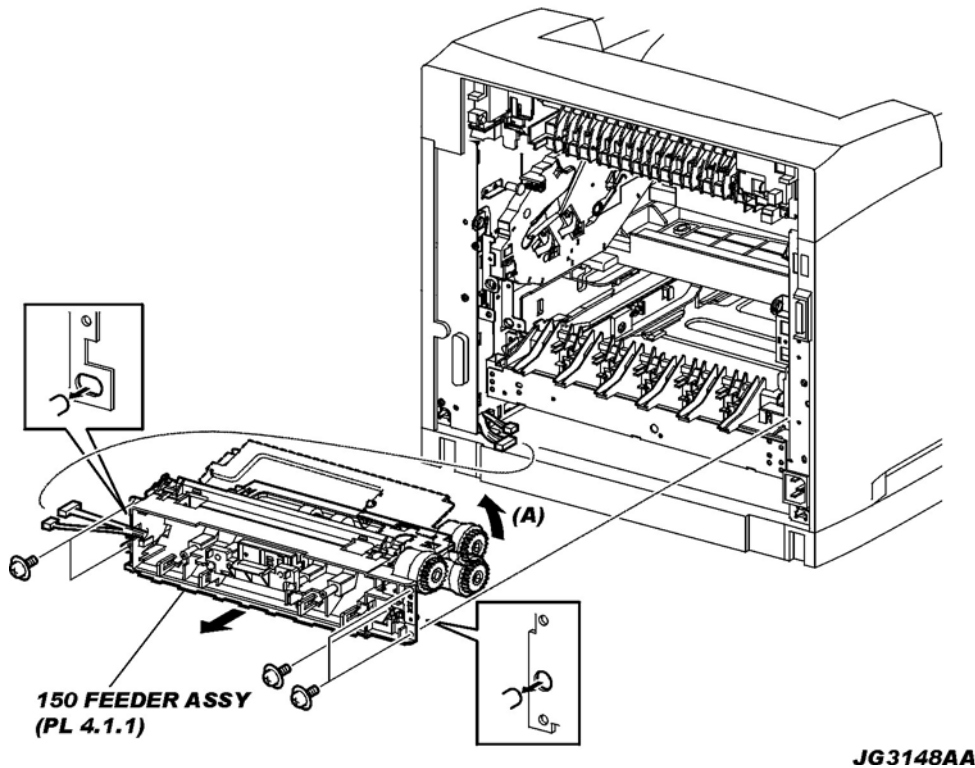

Figure 1. Feeder Assembly
- 7) Remove the 5 screws (silver with flange, 8mm) securing the 150 FEEDER ASSEMBLY to the printer (Figure 1).
- 9) Lift up the 150 FEEDER ASSEMBLY in the direction of the arrow (A), and remove the left boss of the 150 FEEDER ASSEMBLY.